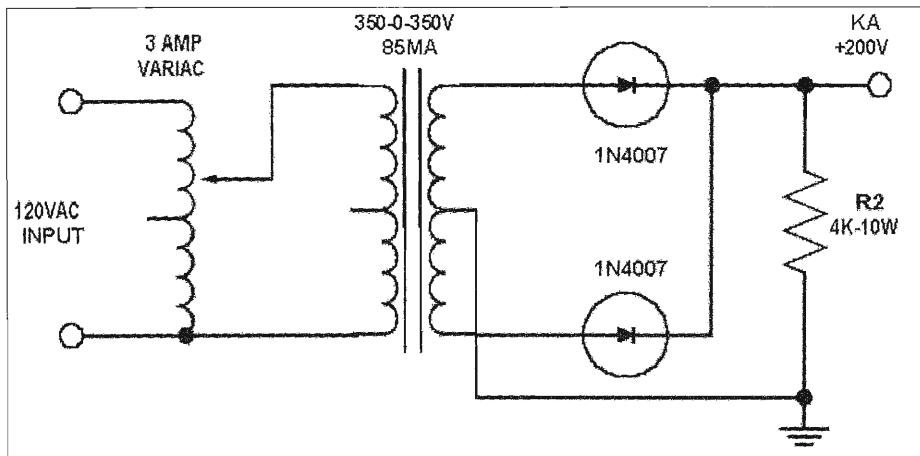

Figure 4: The Variac-controlled, keep-alive power supply.
The 150mV is variable and can be controlled by the keep-alive (KA) power supply Variac. Now we know the PA does not go into cutoff when 100% negative is exceeded. Instead, what is shown is hard limiting action, and the PA is kept alive by the KA power supply, Figure 4, above. Also, as previously pointed out, the secondary of the modulation transformer is loaded with R1 when the PA is under the influence of the keep-alive power supply.
A close look at top of the main switch assembly in Figure 4 shows a switch for selecting two different antennas. This could easily be a four position switch or more depending on your antenna requirements.
Figure 4: This is the main switching assembly. The center, top two-position switch selects the antenna system, and may be adapted for other antenna requirements.